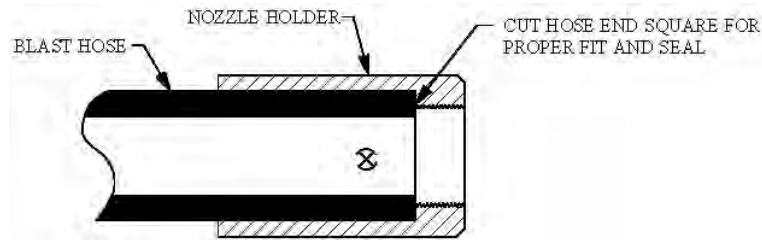

Figure 8.3 – Hose End Fit up
- 8.8. All air hose, blast hose, and threaded couplings have gaskets that seal the connection. To prevent loss of air pressure and/or premature abrasive wear replace these gaskets when leaks are found. Inspect the couplings daily for leaks and wear. Replace gaskets when visible wear or leaks are found. When installing or replacing hose couplings cut the hose end square for secure fit (see Figure 8.3). To insure proper coupling connection always use fittings that are the same brand. See the drawings and part lists in Section 9.1(a) and 9.1(b).